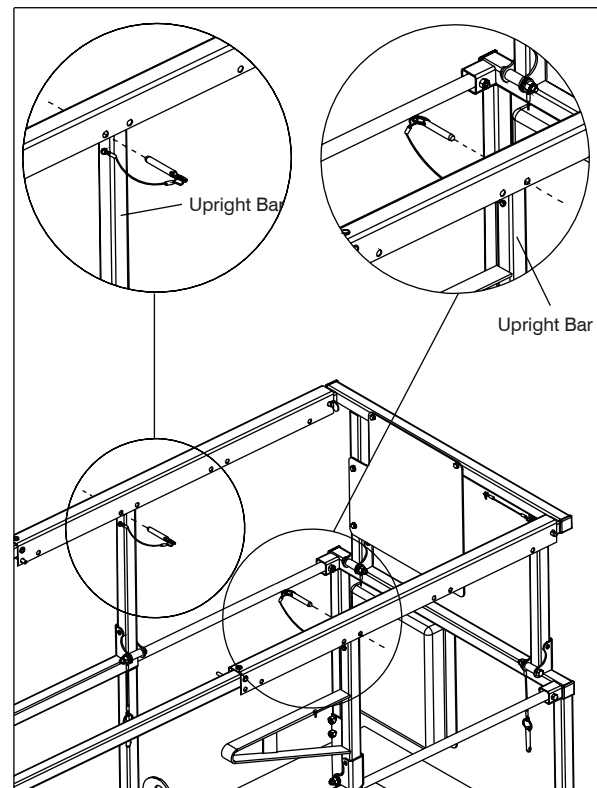

Figure 2-16. Variable Position Manual Extension Platform
- Upon extension or retraction, reinsert locking pins. Insert pin on one side of aerial platform in front of upright bar and the pin on the other side of aerial platform behind the upright bar to prevent accidental movement, in either direction, of manual extension platform during travel or transport. Refer to Figure 2-16 for a configuration example.